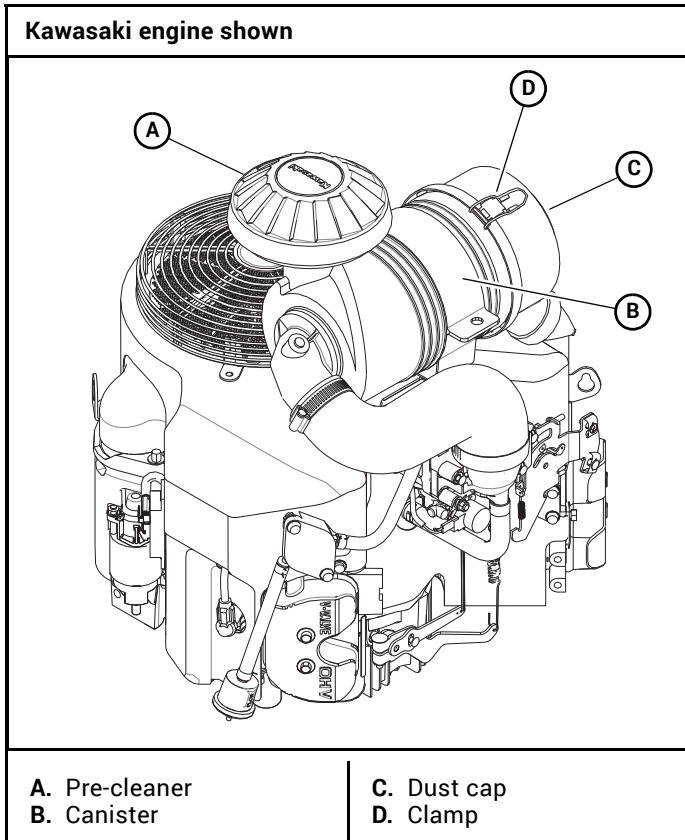
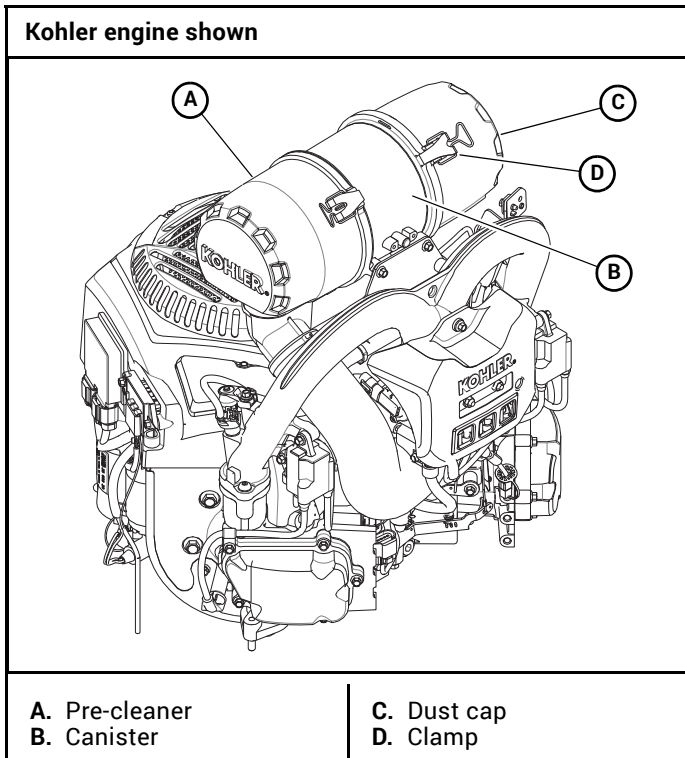

Figure 5-4
Figure 5-5
A specially designed dry filter is standard equipment on these mowers and supplies clean combustion air to the engine. Figure 5-4 & Figure 5-5
3. Reinstall the dust cap. Make sure it seals all the way around the air cleaner canister, then tighten the clamps. Figure 5-4 & Figure 5-5